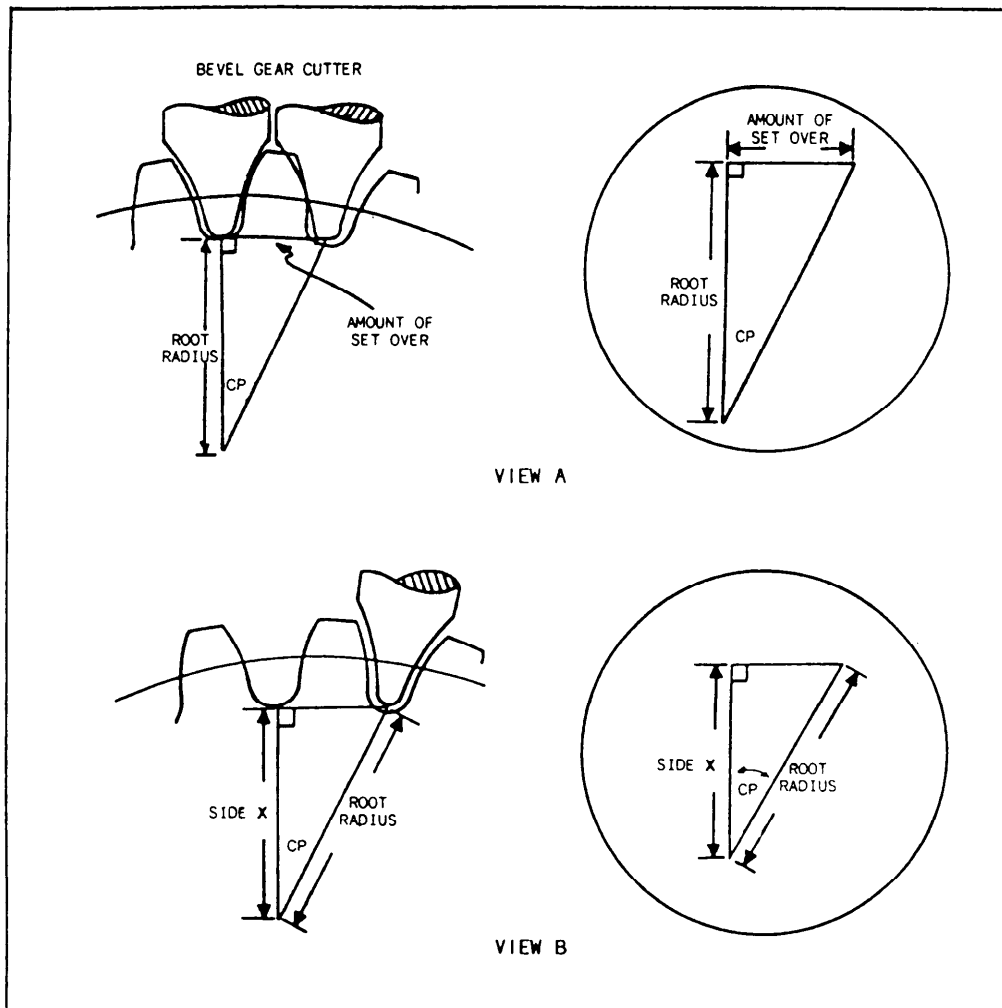

Figure 14-26.—Development of setover and depth increase.
To find the amount of setover, first establish the circular pitch angle ( $\angle CP$ ). One circular pitch equals  $360^\circ$ . Therefore, you can divide  $360^\circ$  (one circular pitch) by the number of teeth (NT) to find the circular pitch angle ( $\angle CP$ ). You can solve for the amount of setover by using the triangle in figure 14-26, view A.
To find the amount of depth increase, set up the triangle shown in figure 14-26, view B. In this triangle, side X is equal to the root radius multiplied by the cosine of the circular pitch angle ( $\angle CP$ ).